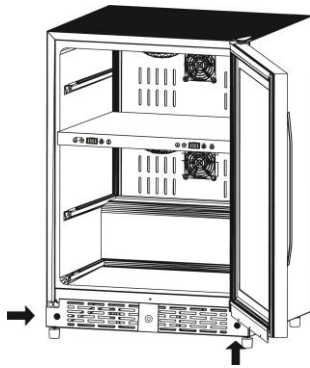

Figure 1
1. Remove the two screws from the front vent with a Phillips screwdriver. See Figure 1. Then, remove the front vent cover. This will expose the bottom hinge.